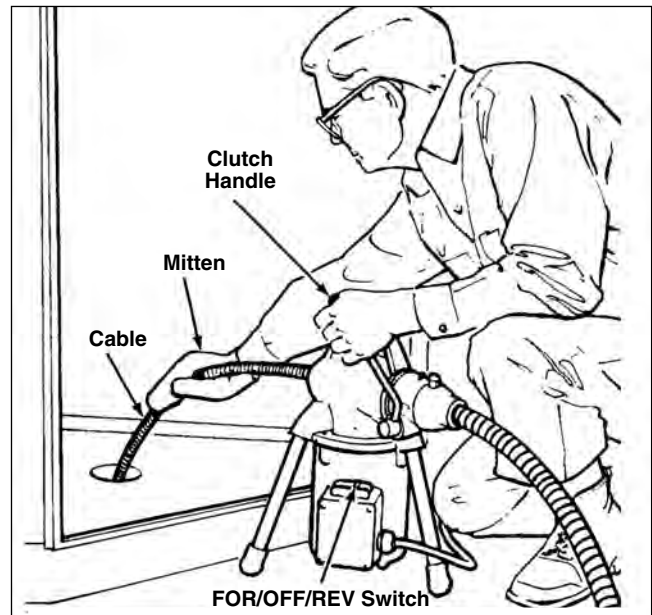

Figure 6 – Proper Operating Position
1. Assume the correct operating posture in order to maintain proper balance (*Figure 6*).